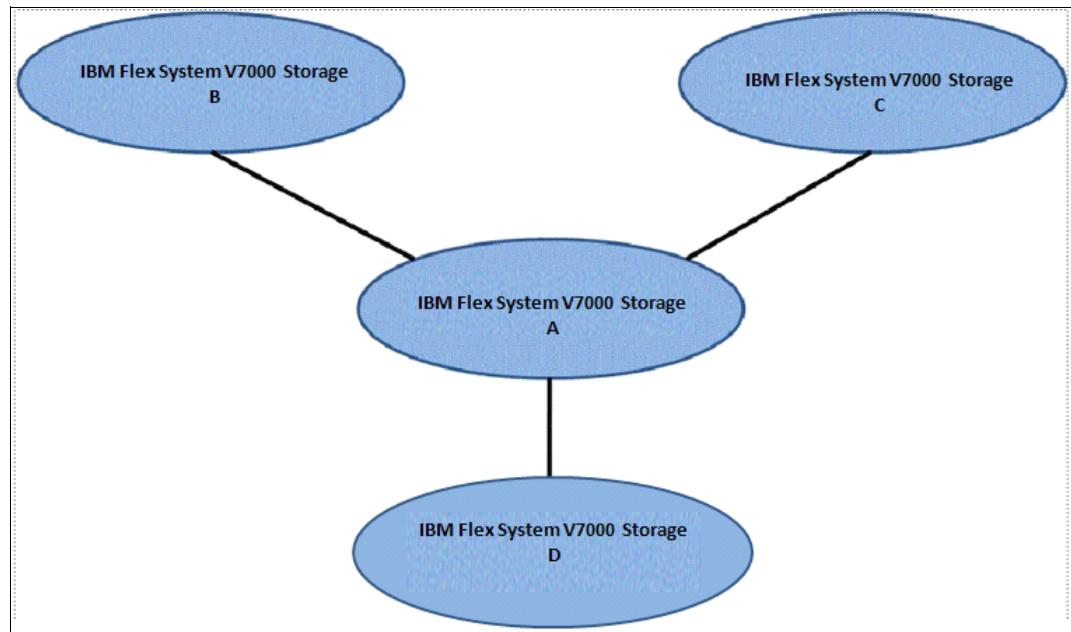

Figure 9-58 Star topology for IBM Flex System V7000 Storage Node
- ▶ Star topology (Figure 9-58 on page 383)